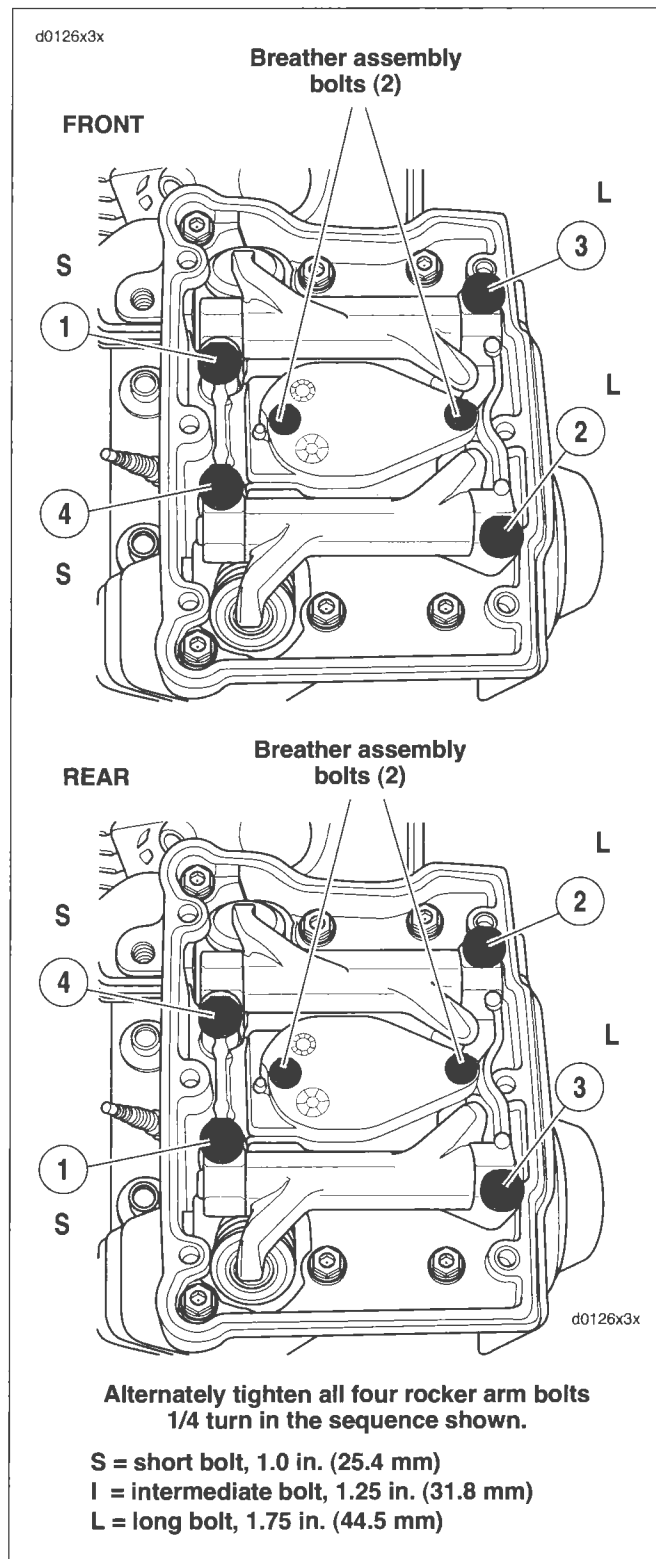

Figure 3-45. Rocker Arm Torque Sequence
2. See Figure 3-45. Place the rocker arm support plate assembly into the rocker housing. Loosely install the four rocker arm support plate bolts with flat washers. Place two short bolts on the left side of the engine and two long bolts on the right. Loosely install the breather assembly bolts at this time.
1. See Figure 3-45. Alternately tighten the two bolts to secure breather assembly to 90-120 **in-lbs** (10.2-13.6 Nm).